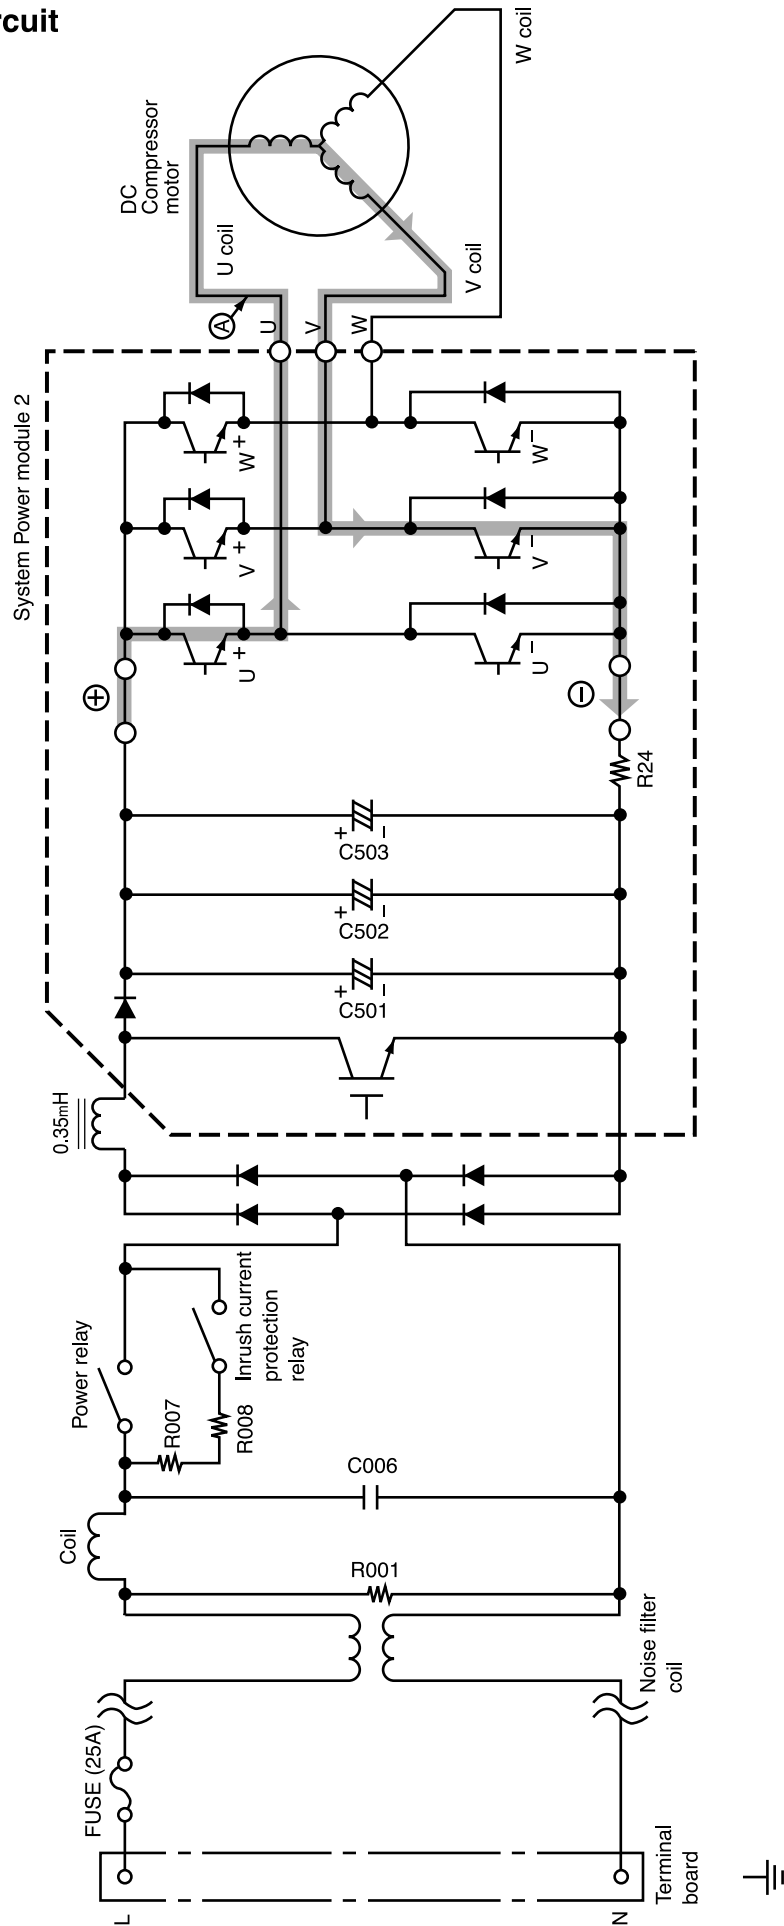
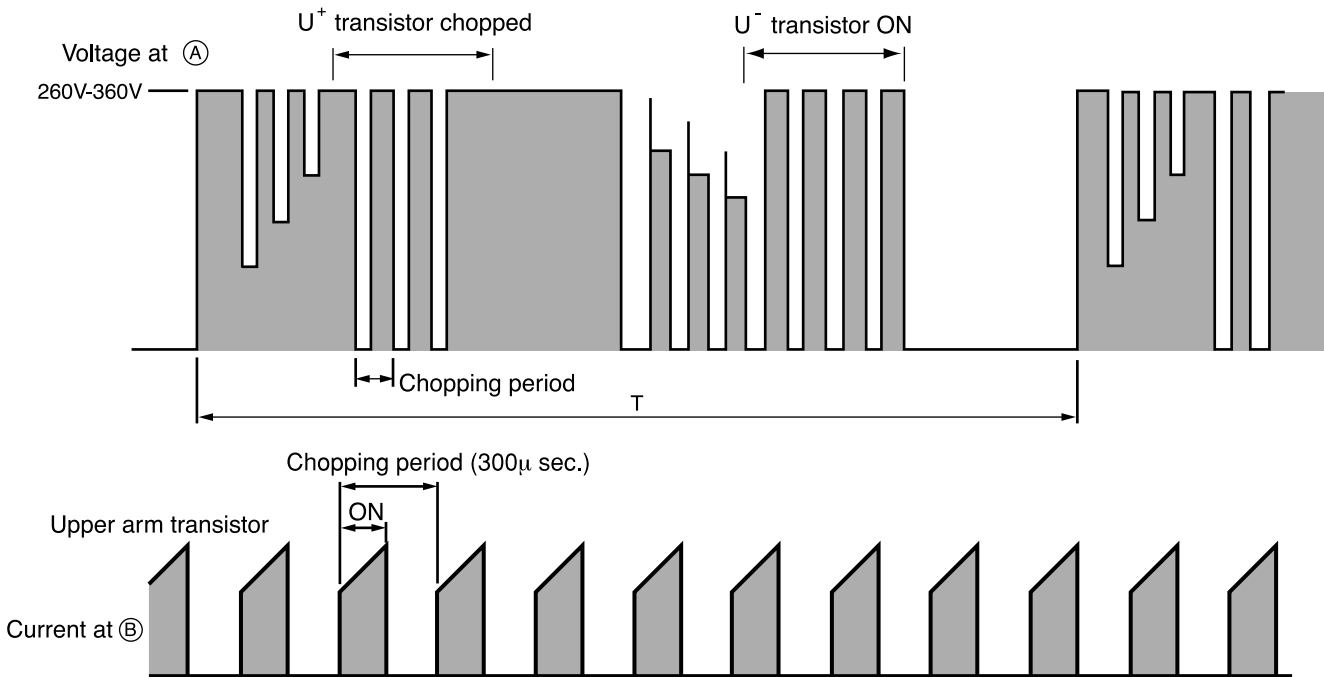

Fig. 3-1 Power module circuit (U⁺ is ON, V⁻ is ON)
Fig. 3-3 Voltage waveform at each point
- Fig. 3-1 shows the system power module and its peripheral circuit.
- Fig. 3-3 shows voltage waveform at each point shown in Figs. 3-1 and 3-4. First half of upper arm is chopper, second half is ON, and first half of lower arm is chopper, second half is ON.
- When power is supplied U⁺ → U⁻, because of that U⁺ is chopped, current flows as shown below; (B)
- (1) When U⁺ transistor is ON: U⁺ transistor → U coil → V coil → V⁻ transistor → DC current detection resistor → Point (B) (Fig. 3-1)
- Since current flows at point B only when U⁺ transistor is ON, the current waveform at point B becomes intermittent waveform as shown in Fig. 3-3. Since current at point B is approximately proportional to the input current of the air conditioner, input current is controlled by using DC current (Id) detection resistor.